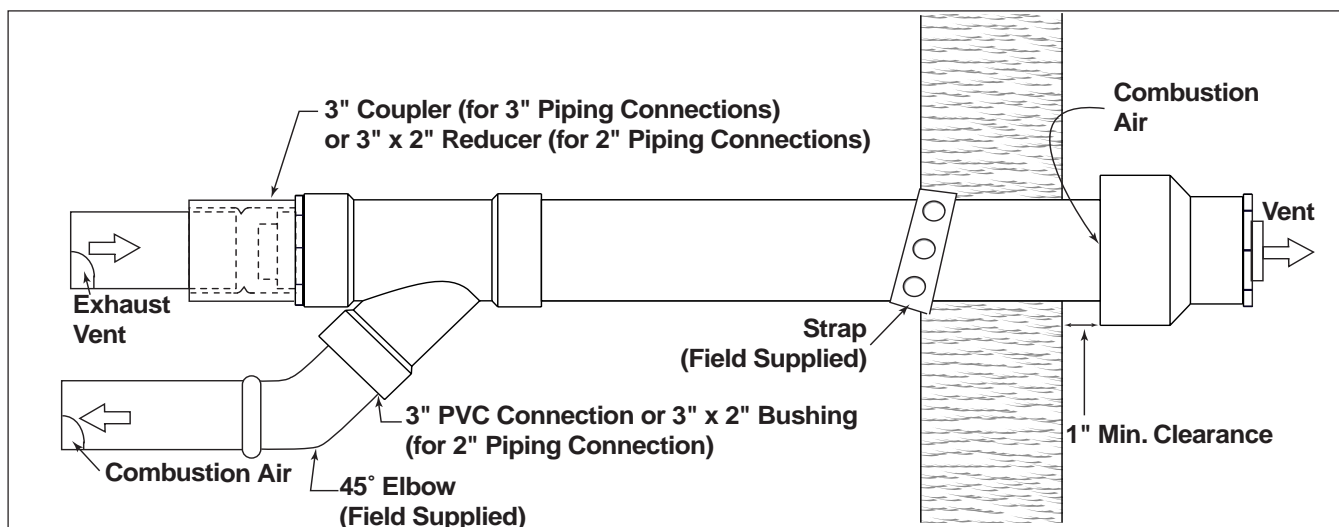

Figure 4. Side Wall Installation
4. Install cemented WYE concentric fitting and pipe assembly through structure's hole (See Figure 4). NOTE: do not allow insulation or other materials to accumulate inside pipe assembly when installing through hole.
5. Secure the assembly to the structure as shown in Figure 4 using field supplied metal strapping or equivalent support material. NOTE: Ensure termination location clearance as shown in Figure 4.